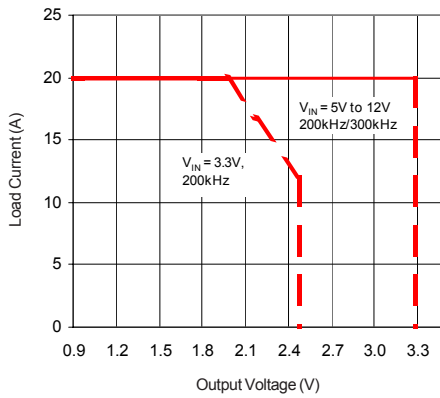

Fig 5. Recommended Operating Area
- ① For Vin less than 4.5V requires external 5V_{DD} supply.
- ② Can be modified to operate up to 3.3V_{OUT}, outside of DAC settable range. See Design Guidelines on how to set output voltage greater than 2V.
- ③ See design guidelines.
- ④ See Fig. 5 for Recommended Operating Area
Note: If input voltage <5Vin nominal operation is required then first see Fig. 5 for maximum current capability limit.